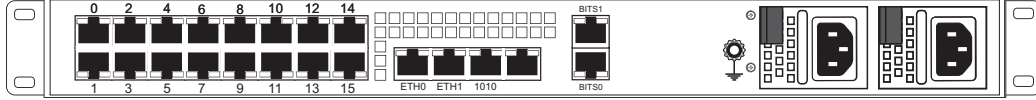

Figure 1.3 7800-TMS
- Based upon the configuration of your 7800 series gateway, the number of 7800-TMS media switch(es) may range from zero to two. See figure 1.3 on page 4.
Note The 7800-TMS that you receive may feature visually different power supplies. This difference is shown in figure 1.3 on page 4.
- One 7800-TMS unit (TMG7800-TMS or TMGIP7800-TMS). See figure 1.3 on page 4.